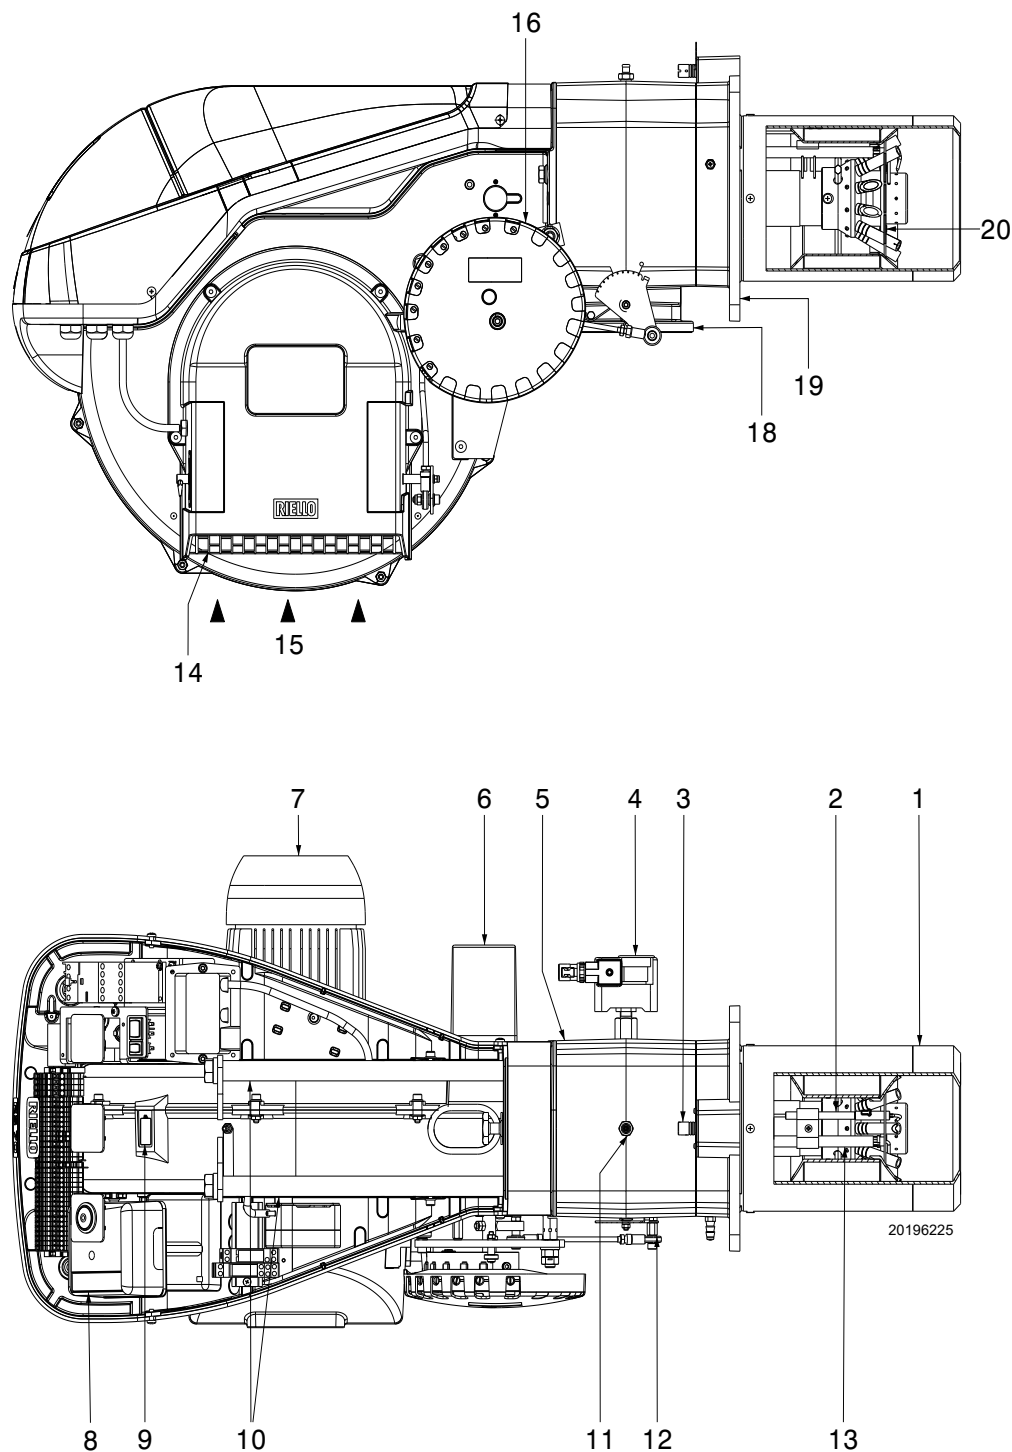

Fig. 4
- (1) Reference conditions: Ambient temperature 20°C - Gas temperature 15°C - Barometric pressure 1013 mbar - Altitude 0 m a.s.l.
(2) Pressure at test point 11)(Fig. 4 on page 10) with zero pressure in combustion chamber and at maximum burner output.
(3) Sound pressure measured in manufacturer's combustion laboratory, with burner operating on test boiler and at maximum output. The sound power is measured using the "Free Field" method, required by EN 15036 standard, and according to an "Accuracy: Category 3" measurement, as described in EN ISO 3746.